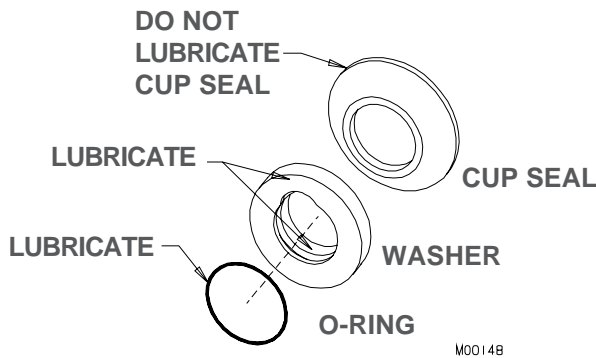

Figure 7-1 Shaft Seal Assembly
1. To assemble the shaft seal, install the cup seal and O-ring on the bushing (see figure 7-1). Apply a light amount of approved sanitary lubricant (such as Petrol-Gel) to the O-ring and the face of the plastic washer opposite the bell portion of the seal. Do not allow any lubricant to come into contact with the bell-shaped rubber portion of the seals.